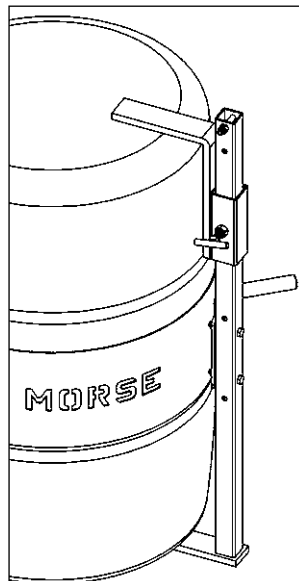

Figure 2.1
- The **Bracket Assembly** (Part # 4556-P) is **required** to handle a plastic drum without a top rim (see figure 2.1). It is also recommended to more securely handle a fiber drum. You can use the Bracket Assembly with a 55-gallon (210 liter) plastic, steel or fiber drum. The brace at top and bottom of the drum prevent it from slipping lengthways through the drum holder. It adjusts for a drum 31" to 39" (79 to 99 cm) tall.